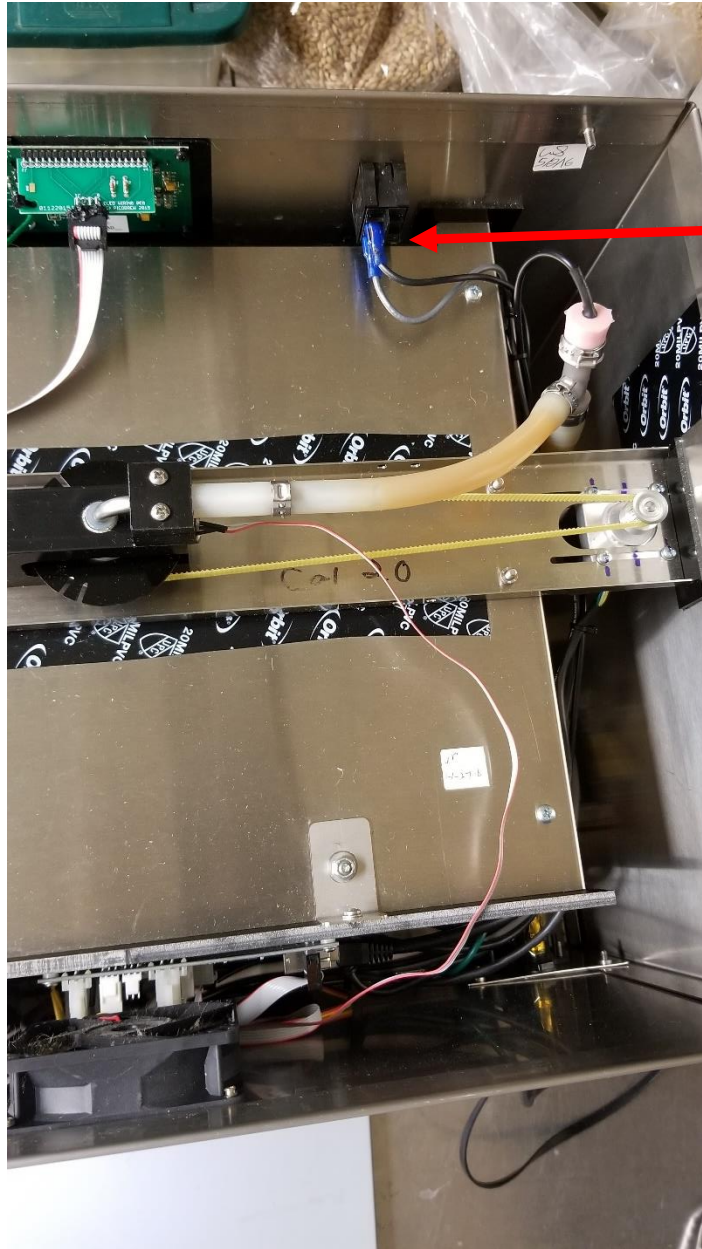

Figure 5
1. Disconnect the On/Off switch, two wires. See Figure 5.